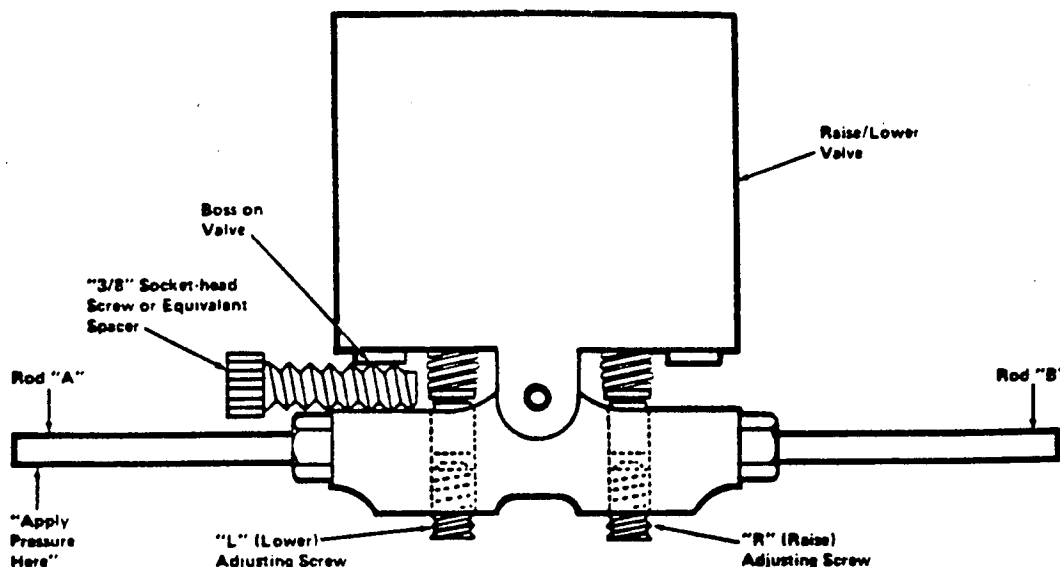

Figure 2-2. RAISE/LOWER VALVE (TOP VIEW).
(1) Raise and support base cover as described in paragraph 1a of this chapter.
(2) Refer to Figs. 2-2, 8-30 and 8-37, sheet 2.
(3) Place a 3/8" diameter screw or equivalent spacer between valve 55278 and valve lever 78199 as shown in Fig. 2-2.
(4) Apply pressure on rod "A" (Fig. 2-2) to prevent spacer from dropping out.
(5) Keeping pressure on rod "A", insert Allen wrench in adjusting screw "L" and slowly turn clockwise until tabletop starts to lower; then turn wrench counterclockwise 1/4 turn.
(6) With pressure still applied to rod "A", insert Allen wrench in adjusting screw "R" and depress **POWER** pedal with your right knee. Slowly turn wrench clockwise until tabletop starts to rise; then turn wrench counterclockwise 1/4 turn.
(7) Release pressure on rod "A" and remove spacer. Lower base cover.
(8) Operate the **RAISE** and **LOWER** pedals to be sure table is functioning; then test adjustment of raise/lower valve as follows: